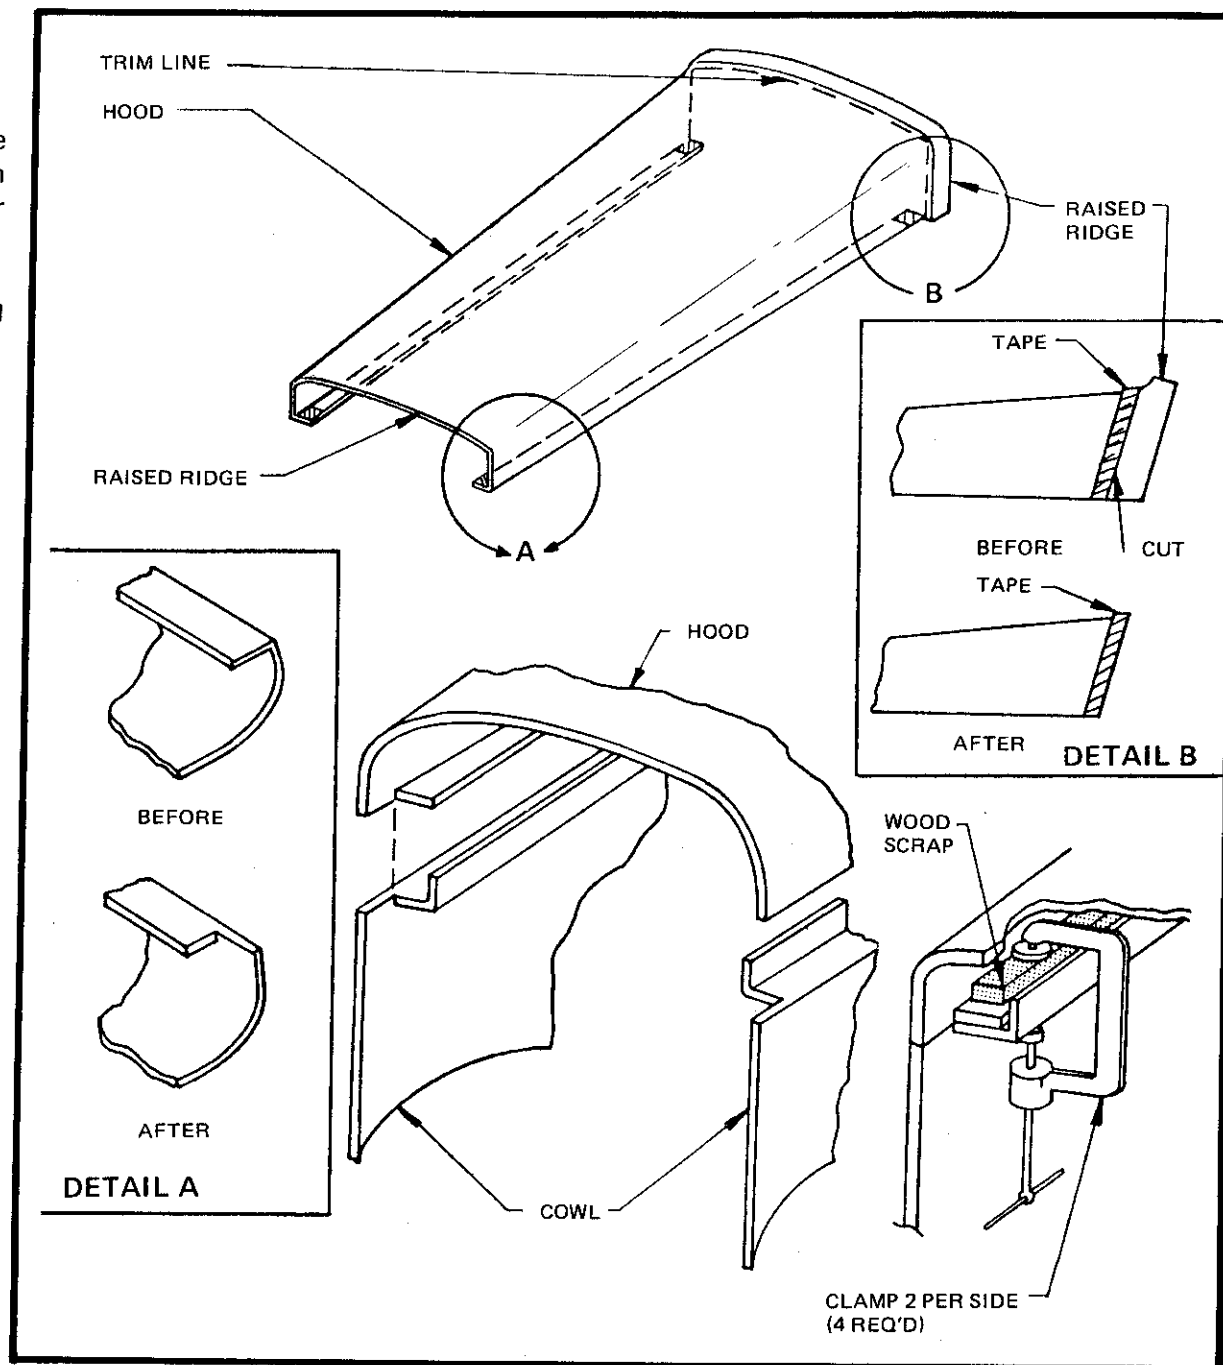

Figure 44
- ☐ Trim as per diagram. (Figure 44) The trim line is just inside the raised ridge on the rear of the hood. Trim the inner lip as shown.